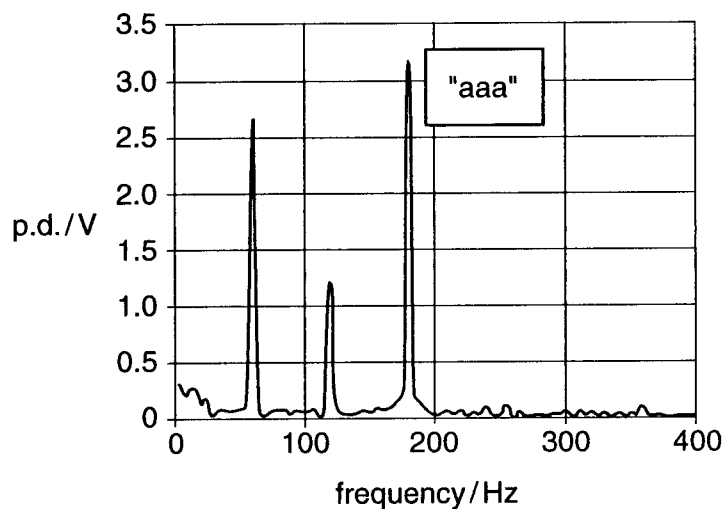
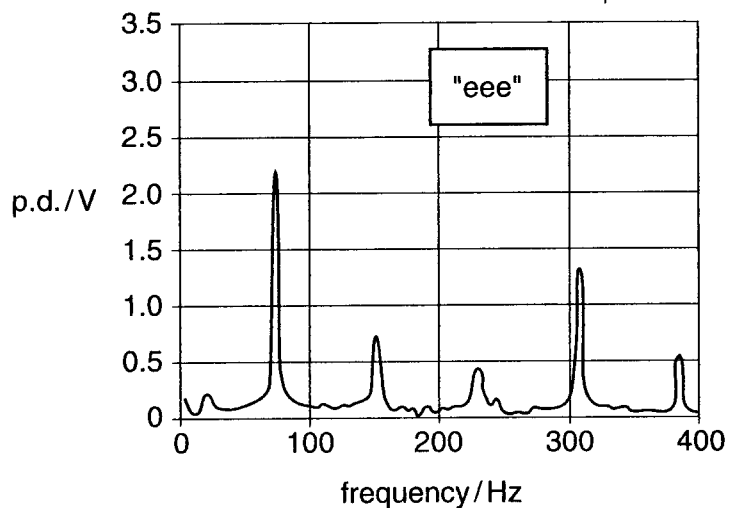
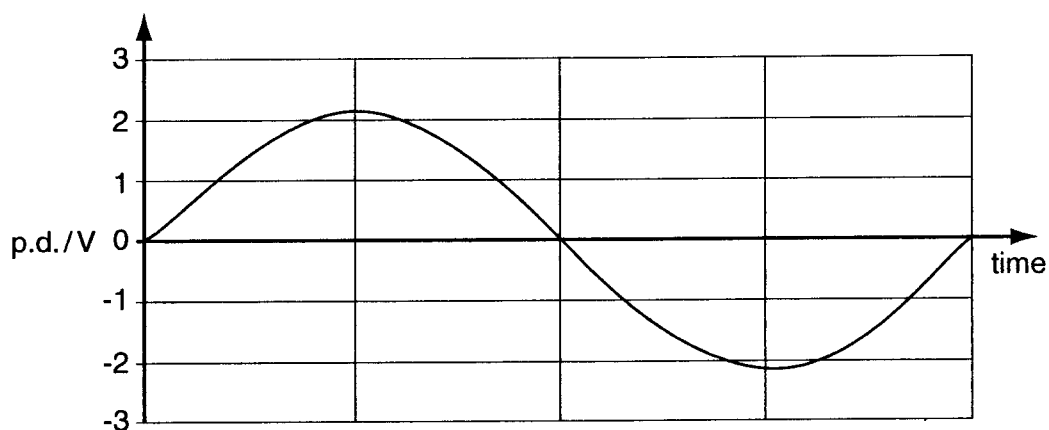

Fig. 5.1
Fig. 5.2
Fig. 5.3
- 5 Figs. 5.1 and 5.2 show the frequency components (spectra) of two sounds from a voice recognition system.
- (a) In Fig. 5.1, the voice was making an “aaa” sound, in Fig. 5.2 an “eee” sound.
- (b) The fundamental frequency component waveform of the “eee” spectrum at 77 Hz is shown in Fig. 5.3.
Using information from Fig. 5.2, draw on Fig. 5.3 a waveform for the fourth harmonic component at 308 Hz at **four times** the fundamental frequency. [2]